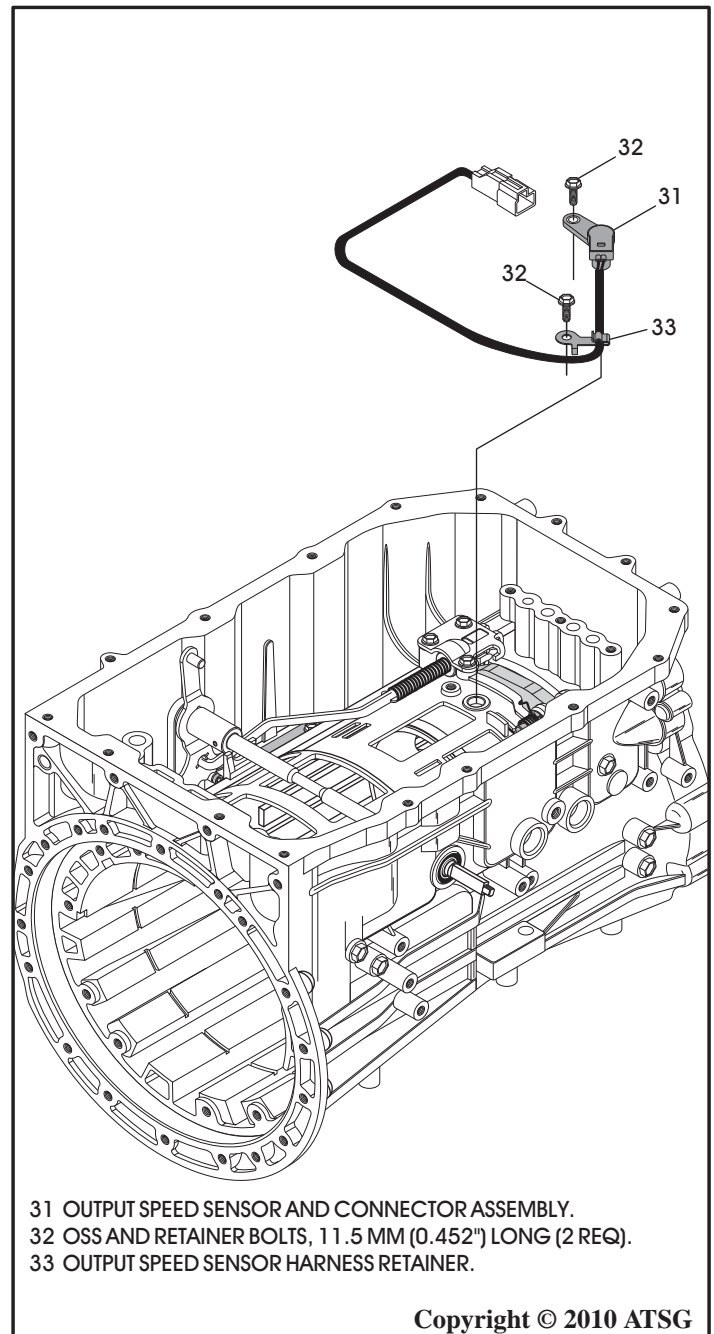

Figure 87
20. Install output speed sensor and harness assembly into case, as shown in Figure 87.